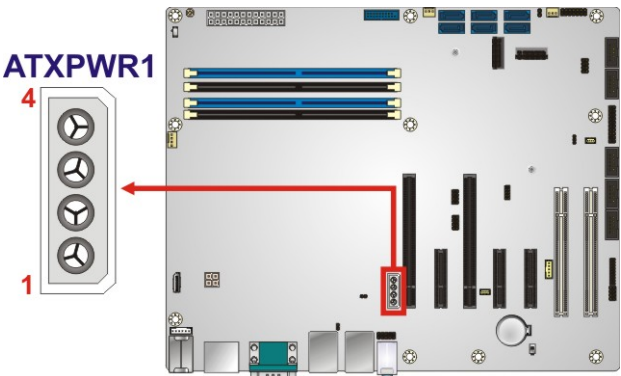

Figure 3-3: Additional Power Connector Location
- CN Location: See **Figure 3-3**